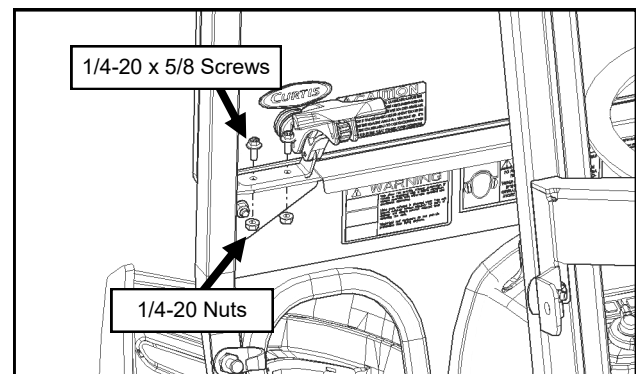

Fig. 11.2 (Secure Windshield Latches)
11.2 Secure the windshield latches to the A-pillars with the latches open, and tighten latch hardware. See Fig. 11.2.